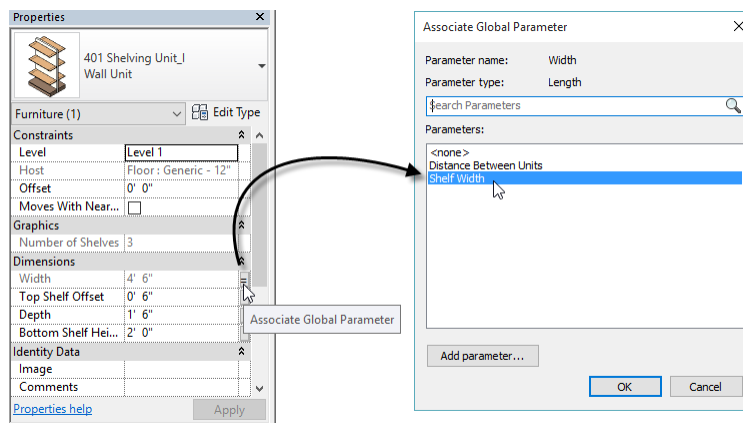

Figure 46
3. Click the Add Parameter button and create a new parameter called: **Shelf Width** (see Figure 46).